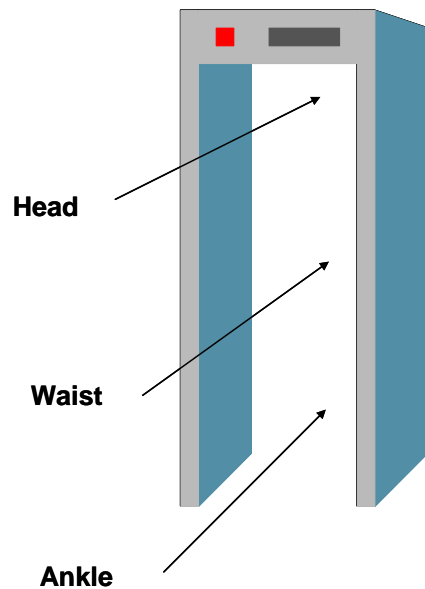

Figure 1: Test Locations for Metal Detection Portal Performance Test
- Metal Detection Portal (Figure 1)